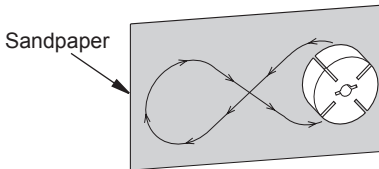

Figure 21 - Sanding Rotor
14. Place fine grade sandpaper (600 grit) on flat surface. Sand rotor lightly in "figure 8" motion four times (see Figure 21).